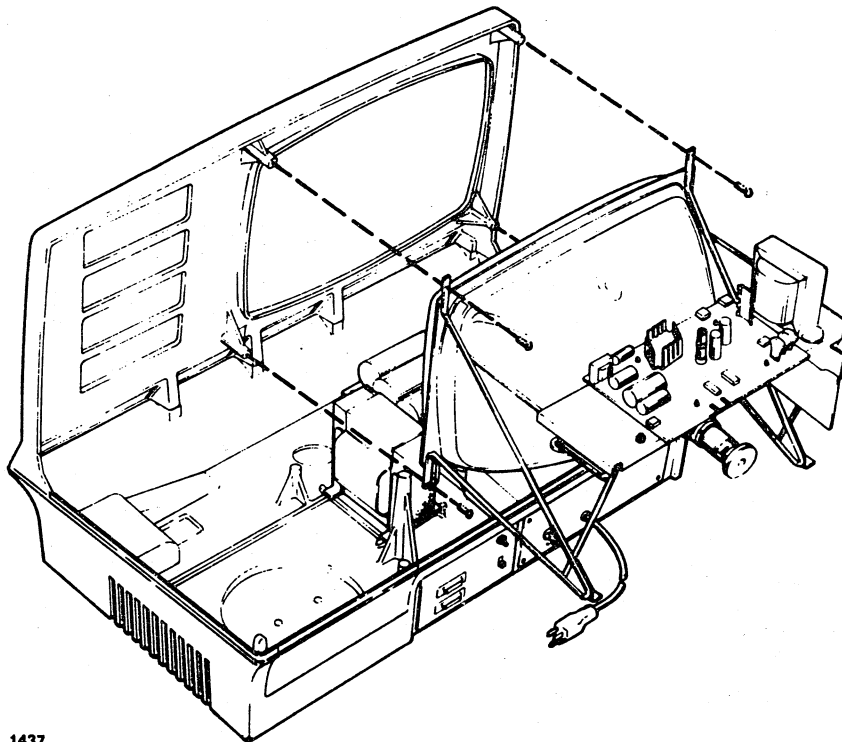

Figure 6-18. Video Module Installation
7. Insert the left bottom hex screw nearest the logic module card cage into the mounting support on the bezel (figure 6-18).